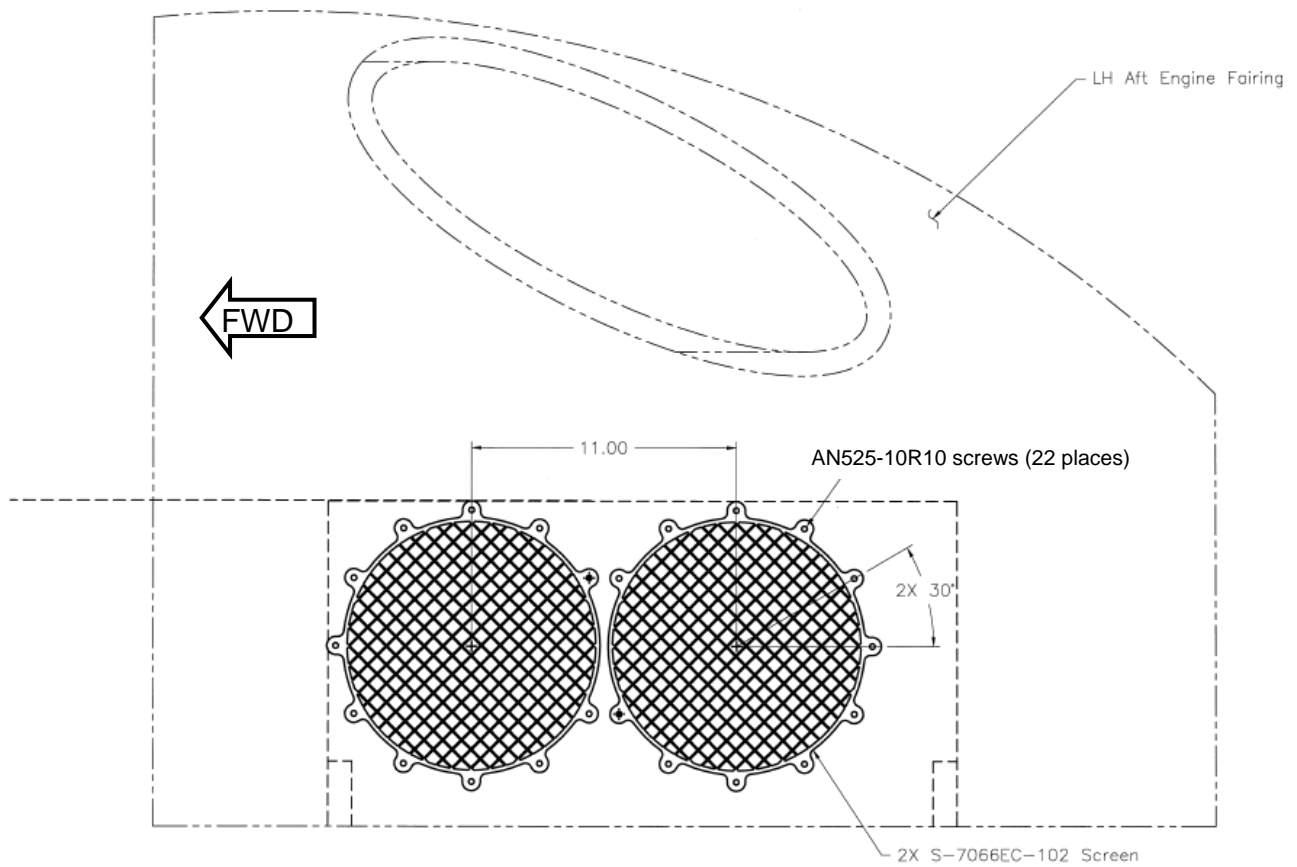

Figure 1
1. Remove AN525-10R12 screws from left S-7066EC-102 screen (11 places). Discard screws and retain screen for installation. Repeat for right S-7066EC-102 screen (11 places). See Figure 1